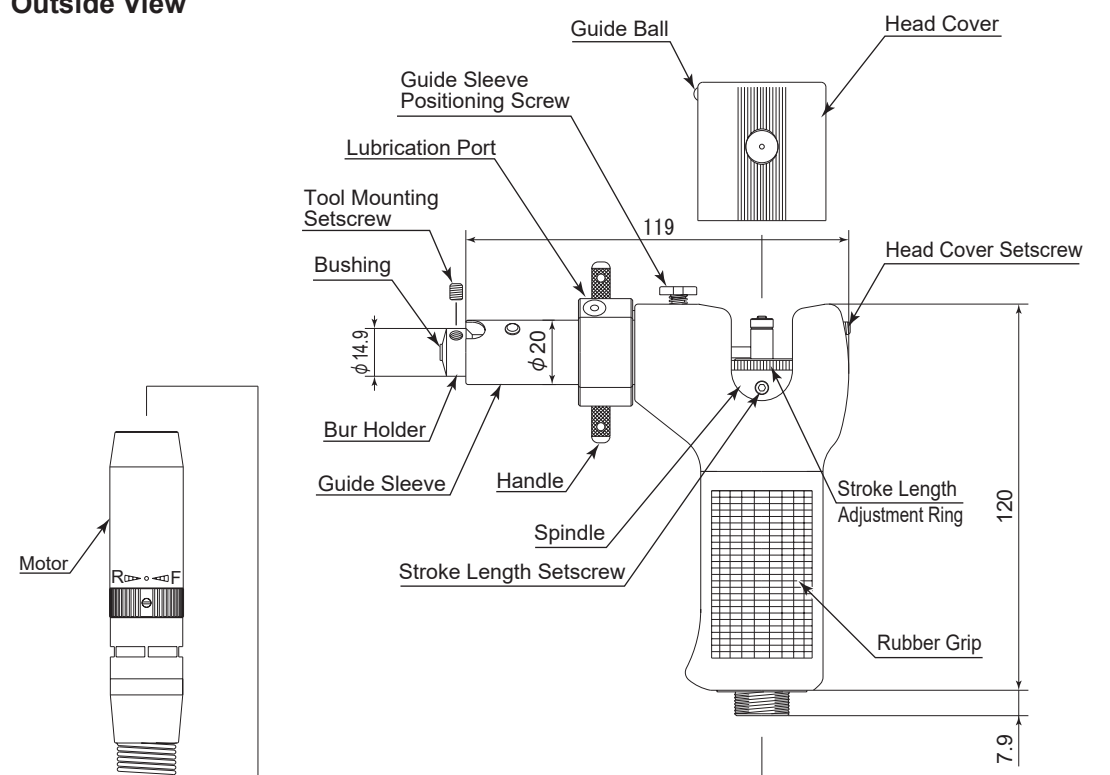

Fig. 2
- Loosen the head cover setscrew with the allen wrench (Fig. 2).
- Loosen the head cover setscrew with provided allen wrench (2mm) (Fig. 2).
- Slide the head cover up ward, and remove (Fig. 2).
- Insert the head cover and push it down, aligning the guide groove on attachment and the guide ball on the head cover (Fig. 2).
- Fasten the head cover setscrew with the allen wrench (2mm) (Fig.2).